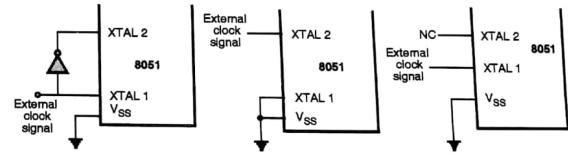

Fig. 1.2.8 : Using an external clock
- 8051 microcontroller are available with the operating frequency ranging from 1MHz to 16 MHz. 8051 can also be sourced with external clock signal. Fig. 1.2.8 shows how 8051 is driven by an external clock signal.